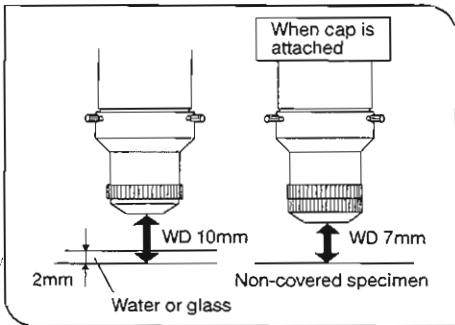

Fig. 17
5 Using the Auxiliary Objective (SZX-AL20X) (Figs. 17 - 19)
- ⊙ This is a 2.5X auxiliary objective for exclusive use with the DFPLAPO1XPF objective. It is effective for non-covered specimen observation when the cap is attached to the tip and for observation through a 2 mm-thick water or glass layer when the cap is removed. (Fig. 17)